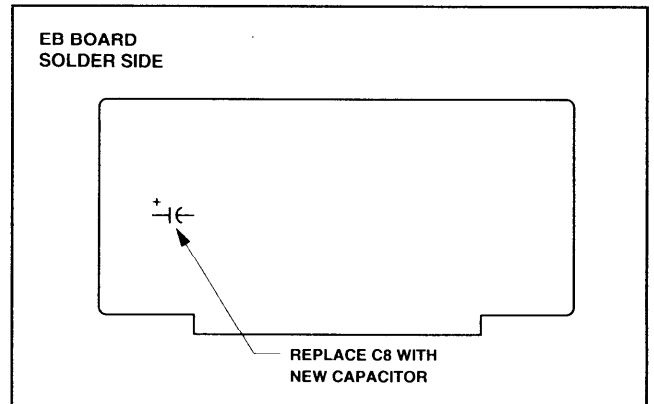

Figure 2
- Replace capacitor C8 (4.7 μ F, 200V) on the EB board with the new high-ripple current 4.7 μ F capacitor. (See Figure 2.)